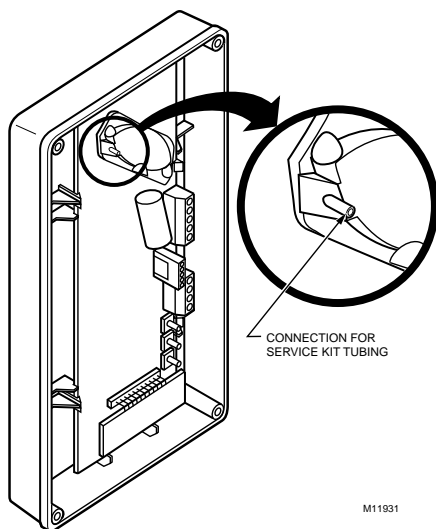

Fig. 1. Service kit tubing connection.
- b. Connect the service kit tubing, see Fig. 1.